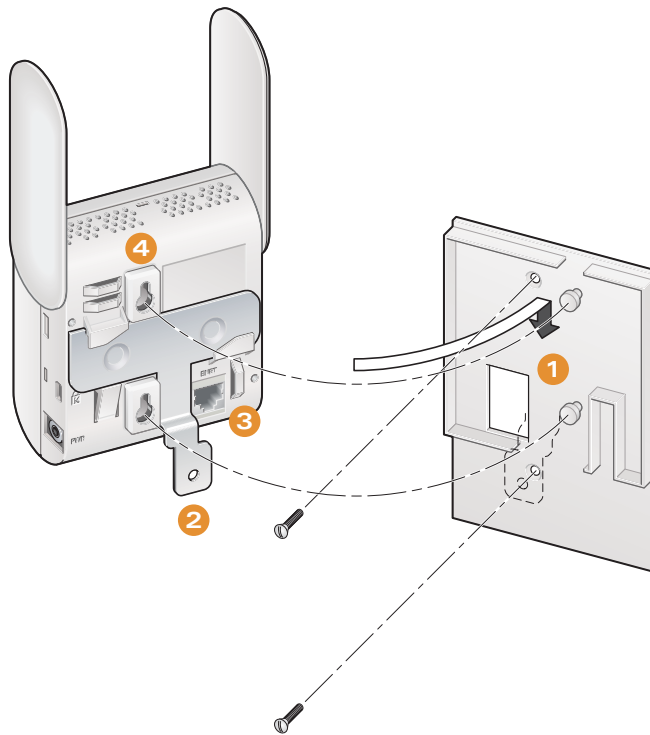

FIGURE 4 Installing AP Using the Wall Mount Cradle
1. Insert the Fast Ethernet (FE) cable through the hole in the mounting cradle (see Figure 4), then attach the mounting cradle to the surface using the appropriate fasteners (not included) or the screw holes on the in-wall gang box.
2. (Optional) Align and attach the AP security T-bar to the AP 65 as shown (see Figure 4).
4. Align the AP 65 with the mounting slots as shown in Figure 4. Push the AP onto the mounting tabs to secure the AP 65 in place.